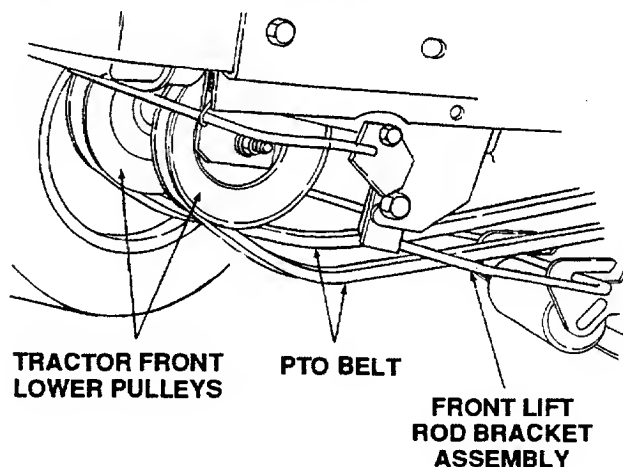

Figure 39
7. Pass the PTO belt downward, inside the tractor frame, until the belt is below the two tractor front-lower pulleys. (Refer to Figure 39.)